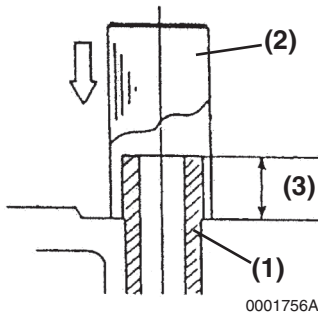

Figure 6-25
3. Finish installing the valve guides (Figure 6-25, (1)) to the proper height (Figure 6-25, (3)) using the valve guide installation tool (Figure 6-25, (2)). See valve guide projection specification on page 6-6.